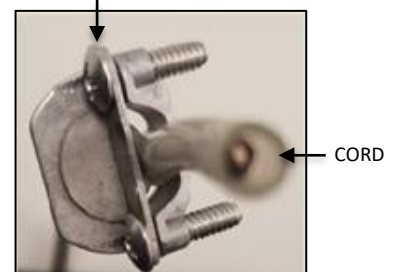

FIG. 10 – STRAIN RELIEF WITH CORD INSERTED
5. Insert cord through the strain relief and tighten two screws on the strain relief above hanging bracket where marked. If screws are not properly tightened cord could slip through the strain relief, causing the fixture to fall as shown in FIG. 10. Be sure to leave a minimum of 8.00" past the STRAIN RELIEF to allow for WIRE connections.